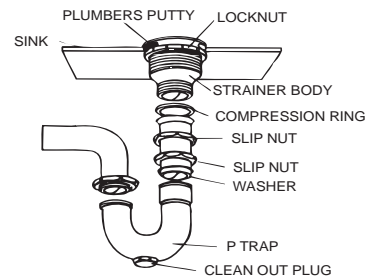

Figure 3
10. Connect the drain tailpiece to the bottom of the basket strainer, then fasten the trap and drain extension to the wall stub-out (see **Figure 3**). You may use metal or plastic drain pipe and trap, following the directions provided by their manufacturer.